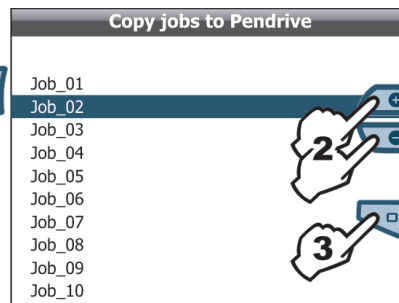

Fig. 56
- 2 Scroll the jobs list (Fig. 56) using keys **+** or **-** and select the file to copy;